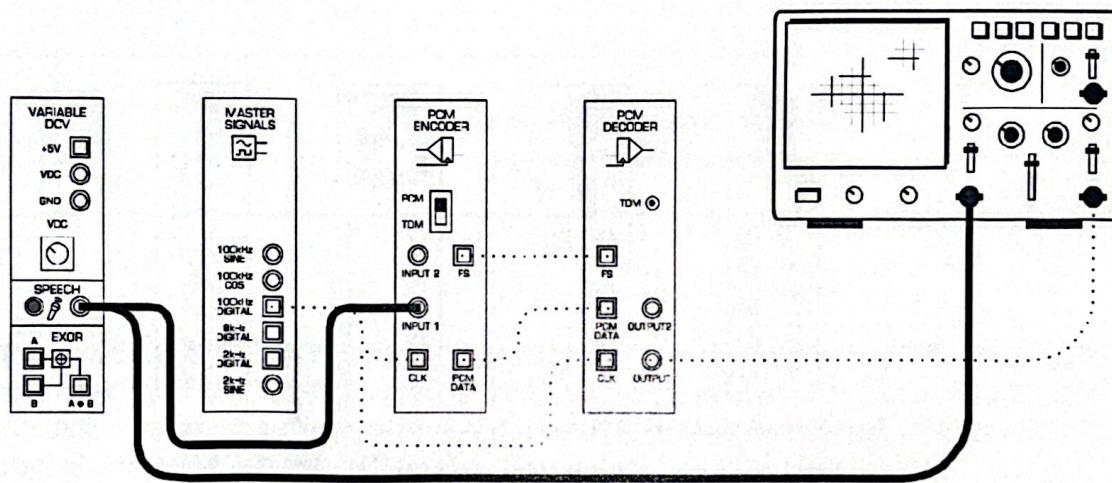

Figure 9
29. Modify the set-up as shown in Figure 9 below.